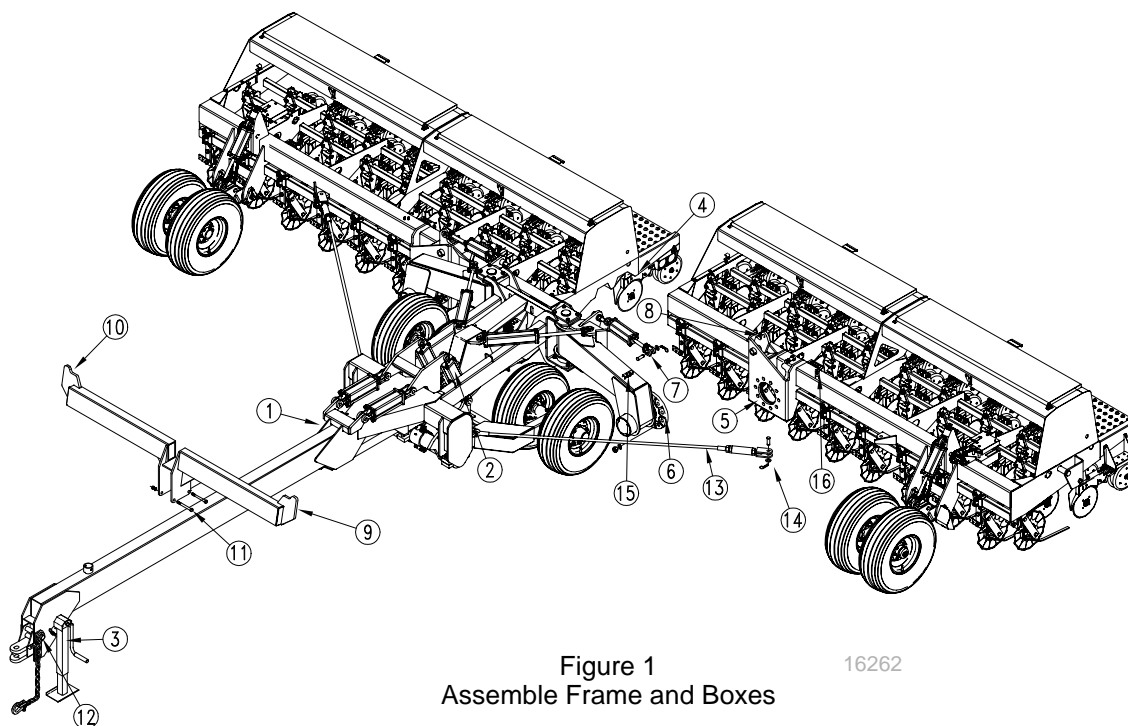

Figure 1
3. Allow 48 in. of hose between the hose clamp on the tool bar (Figure 1, 15) and the hose clamp on the box (Figure 1, 16).